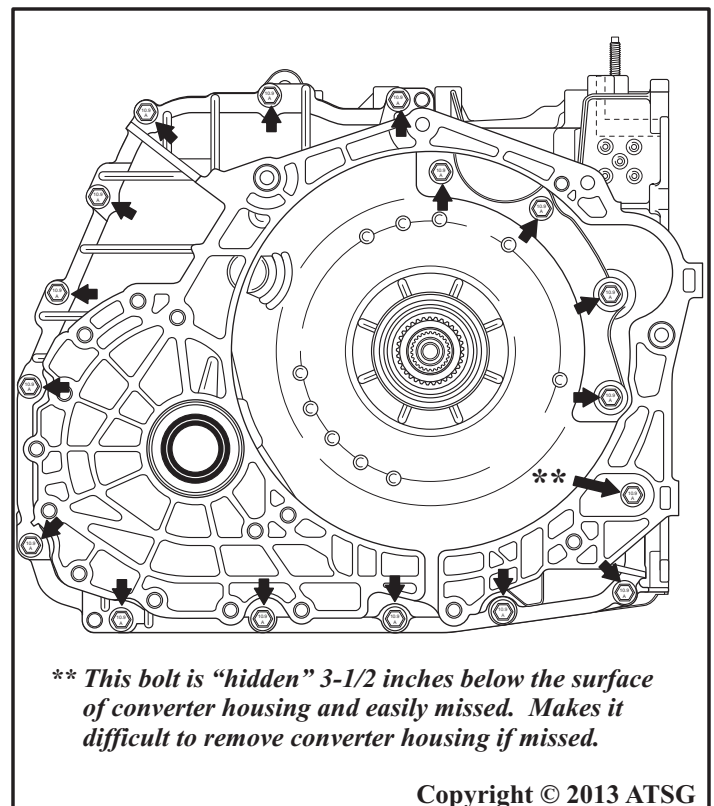

Figure 68
51. Rotate transmission so that converter housing is facing up, as shown in Figure 68.
52. Remove the seventeen (17) converter housing to case retaining bolts and their locations are shown in Figure 68.
**Note:** There is one retaining bolt that is easily overlooked because it is 3-1/2 inches below the machined surface of the converter housing. Refer to Figure 68 and 69.